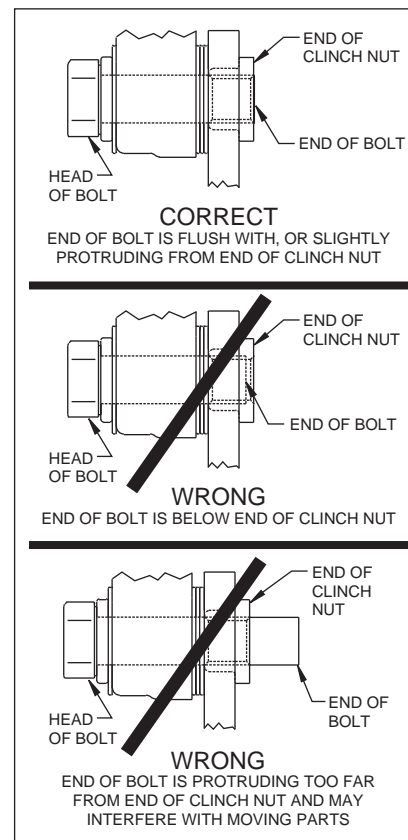

Figure 3.
- Install the dust cap (16) onto the hub (7). Friction created by the o-ring (17) on the dust cap (16) keeps it from unscrewing. The O.D. of the existing spindle washer may be larger than the I.D. of the dust cap (16) which may allow the washer to contact the dust cap (16). Use the spindle washer (15) supplied with the kit instead of the stock washer.
- NOTE:** Please reference the caution statement at the beginning of the assembly instructions. Mount the caliper (18) onto the caliper bracket (1) using two bolts (20), two washers (19) and four washers (21). Finger tighten. View the rotor (11) through the top of the caliper (18). The rotor (11) should be aligned in the center of the caliper (18). If not, loosen the two bolts (20) and adjust the caliper (18) by using 0.032 inch thick shim washers (22). The shim washers (22) should be placed between the caliper (18) and the flat washers (21). Finger tighten and recheck alignment. Add as many shim washers (22) as necessary to achieve the correct alignment. **NOTE:** The end of the bolt must be flush with or slightly protruding from the head of the clinch nut. See Figure 3. Place spare shims (22) between washer and caliper mounting ear to achieve the proper mounting fastener configuration. Always use the same amount of shims on both the top and bottom caliper mounting bolts (20). Loosen the two bolts (20) and apply red Loctite® 271 to bolt threads (20) and torque to 40 ft-lb.
- Install the disc brake pads (23) and secure using cotter pin (24).